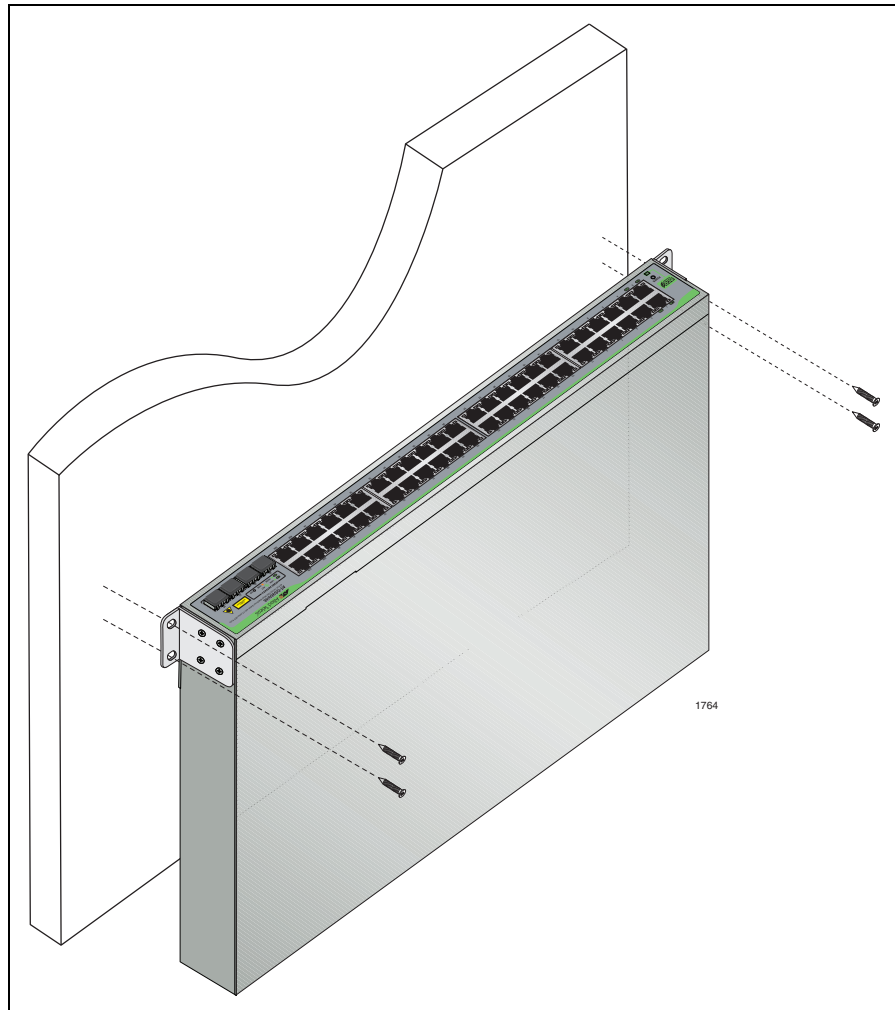

Figure 8. Positioning the Switch onto the Wall with Mounting Screws
5. Position the switch on the wall and fasten with four screws, as illustrated in Figure 8 on page 38.